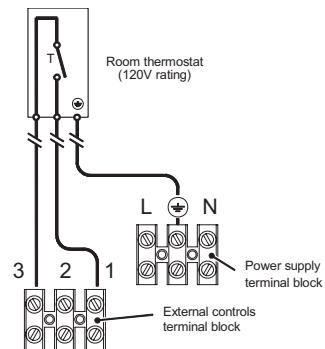

Figure 12.7
- The room thermostat must be connected to the “Control Terminal Block” (Fig 12.7).
- Connect the room thermostat between terminals 1 and 3 as shown in Fig. 12.7.